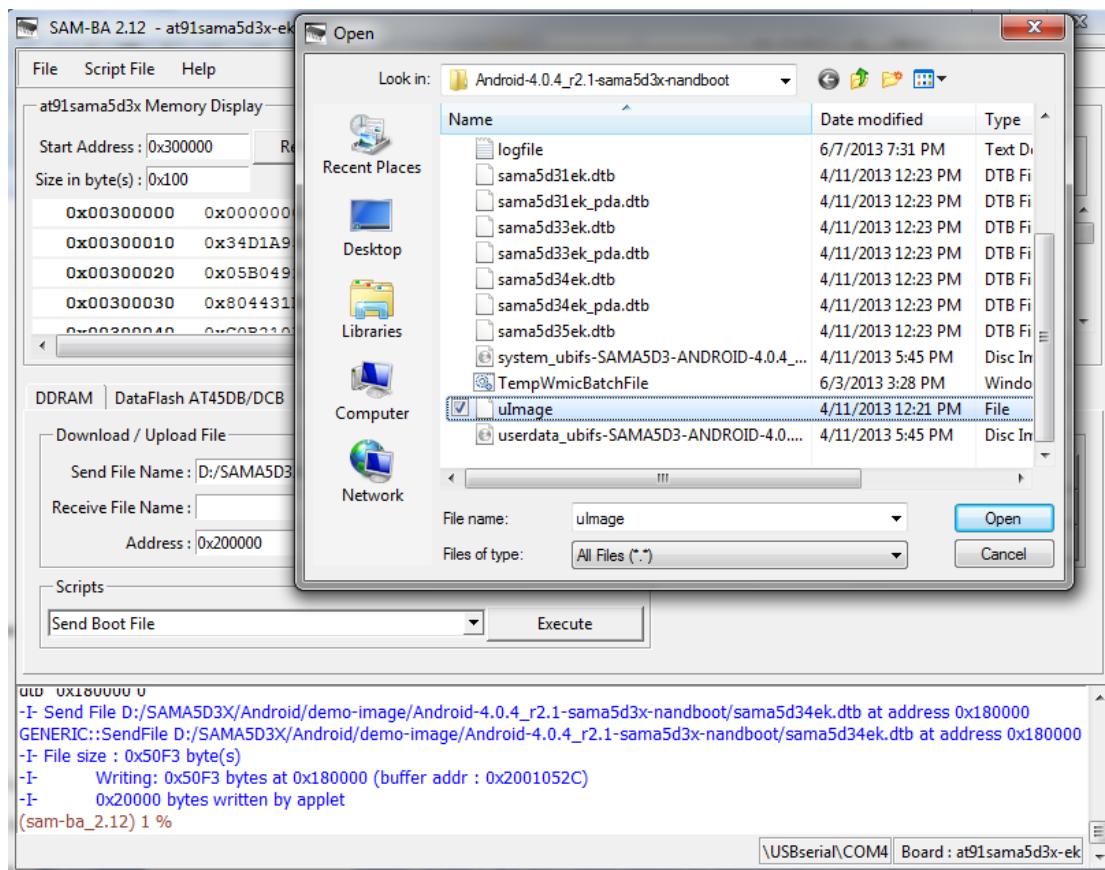

Figure 4-15
(10) Download Linux kernel [ ulmage ] to 0x0020 0000. Refer to figure 4-15: